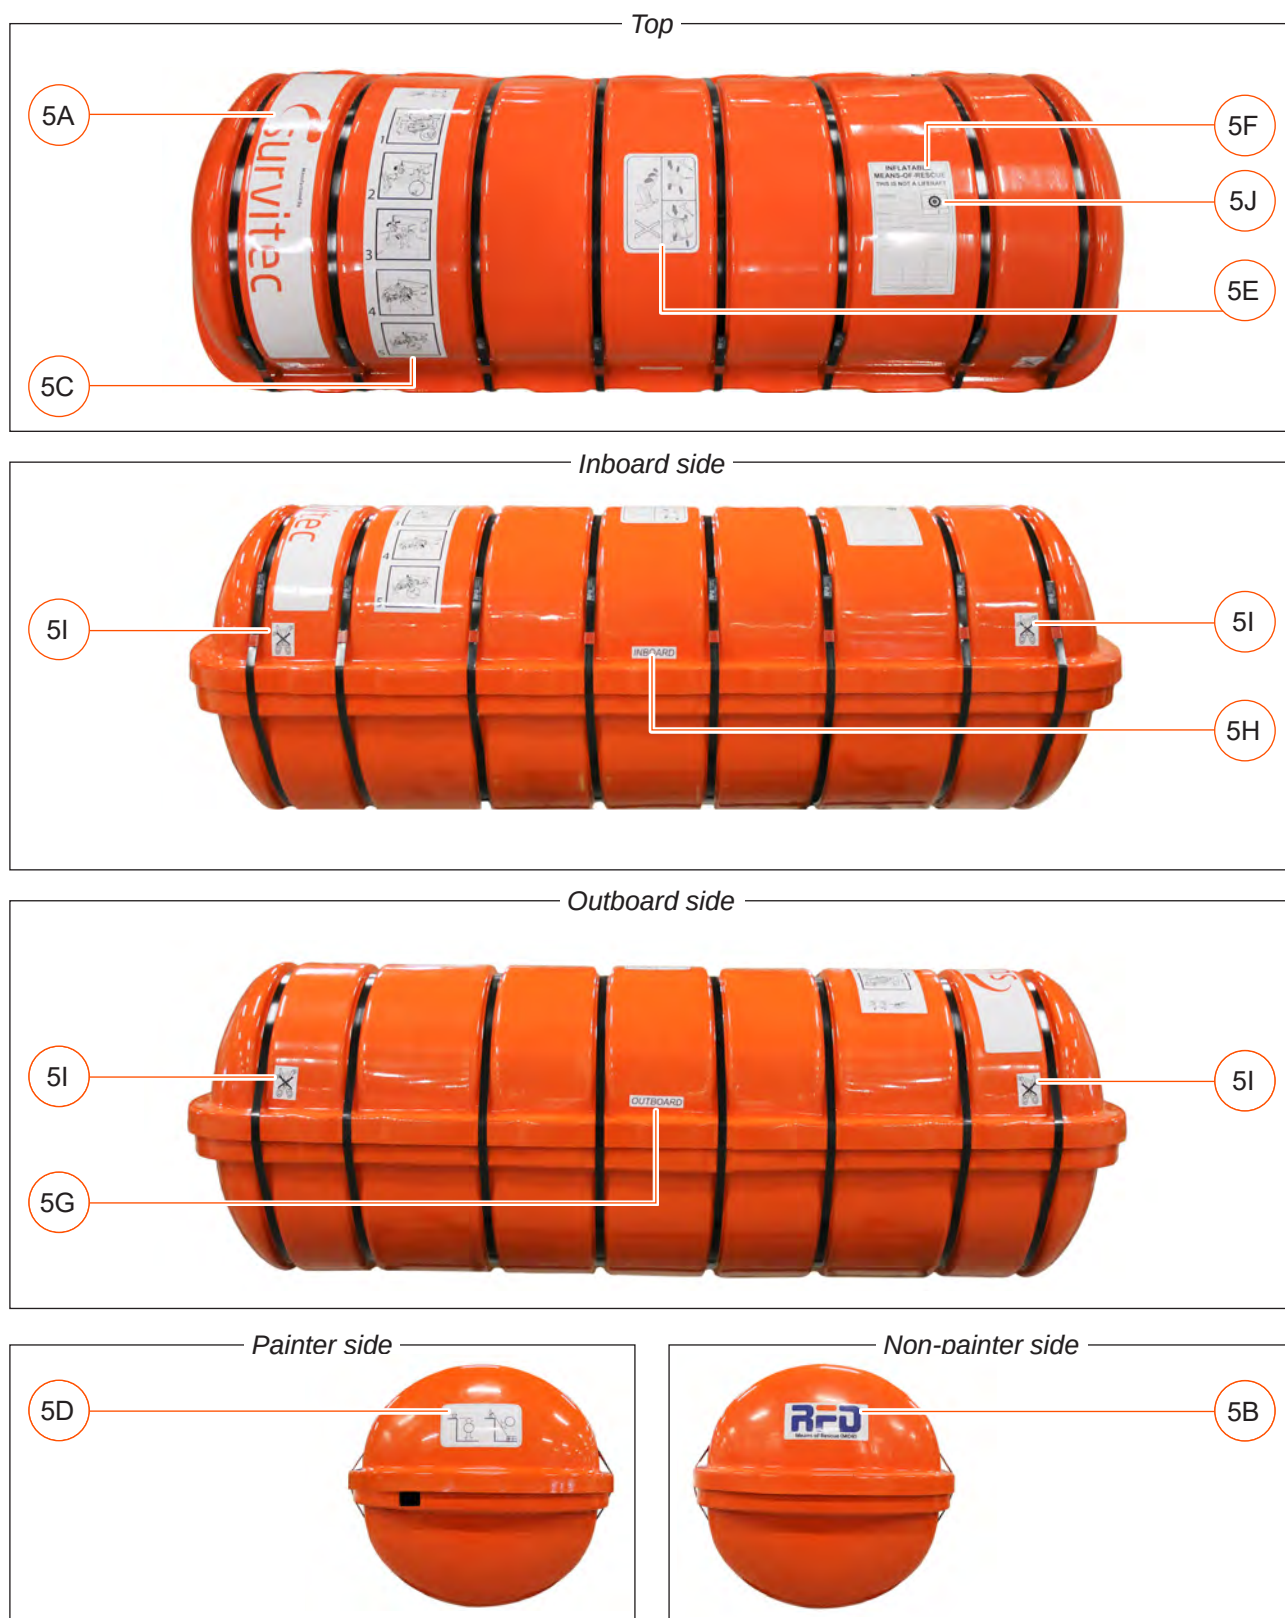

Figure 37
- Mk 10 size 7 (orange). Refer to **Figure 37** for label positions.